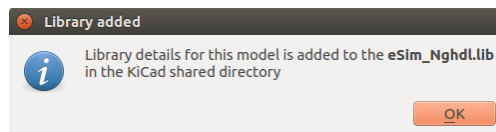

Figure 9.4: Uploading of digital model
2. Now browse and locate the VHDL file to upload. Select the VHDL file and click on the Upload button. This process will create Ngspice model and corresponding component drawing inside the KiCad library (eSim_Nghdl.lib) of the VHDL block to be used in mixed-mode simulations. An acknowledgement message will appear upon successful processing of the VHDL code as shown in Fig. 9.4.